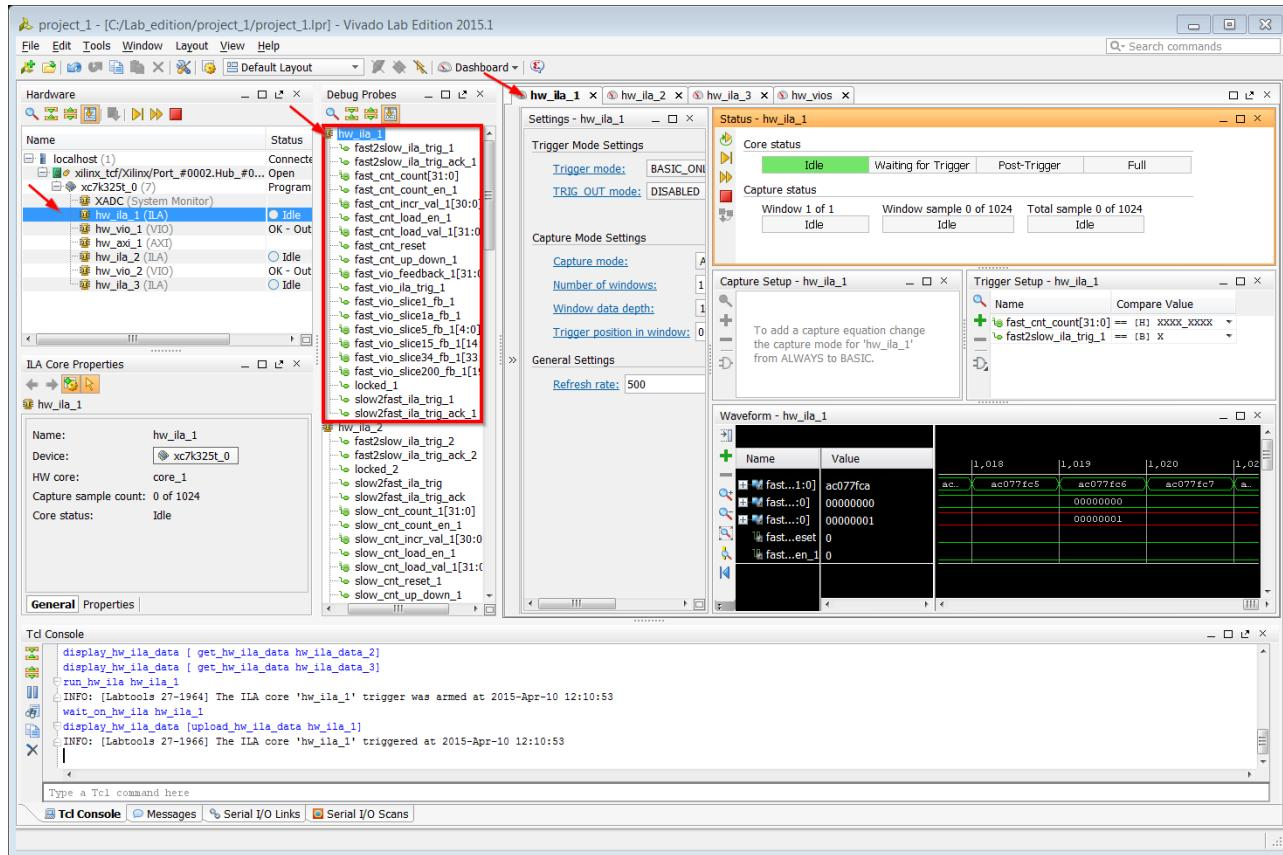

Figure 9-13: Selection of the ILA Core in Various Views
**Windows->Debug Probes** menu option, which displays the **Debug Probes** window as shown in Figure 9-13, page 84.